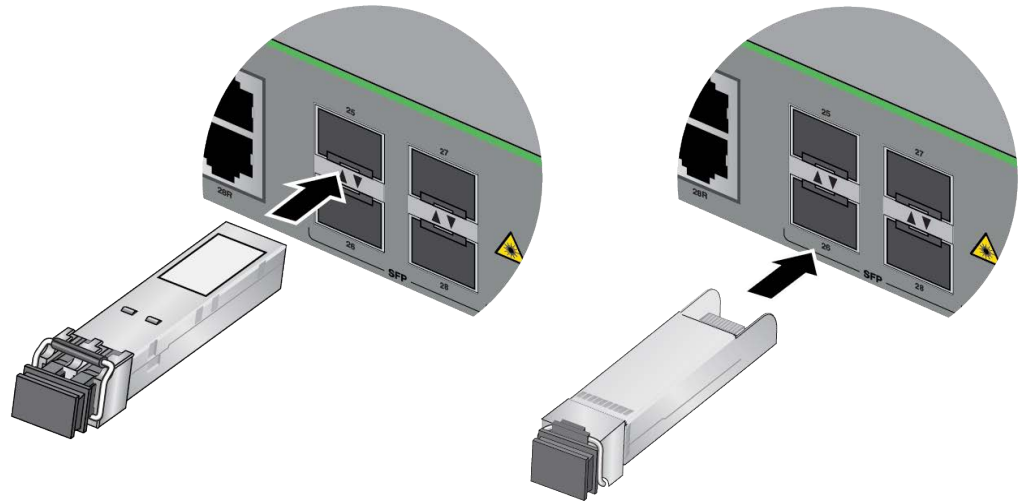

Figure 25. Installing an SFP Transceiver
3. Slide the transceiver into the slot until it clicks into place. Refer to Figure 25 on page 63.